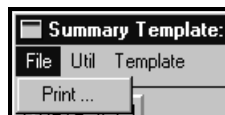

Figure 3-85. Summary Dialog - File Menu
As shown in Figure 3-85, the **File** menu on the **Summary** dialog contains only one (1) menu choice called **Print ...**, which is discussed below.
- ❑ **SUMMARY > File > Print ...:** Selecting **Print...** from the **File** menu on the **Summary** dialog shown in Figure 3-85 displays a typical Windows **Print** dialog on which the user can view and modify the printer settings as desired. Afterwards, clicking **OK** on this **Print** dialog immediately sends the currently displayed **Summary** to the printer.